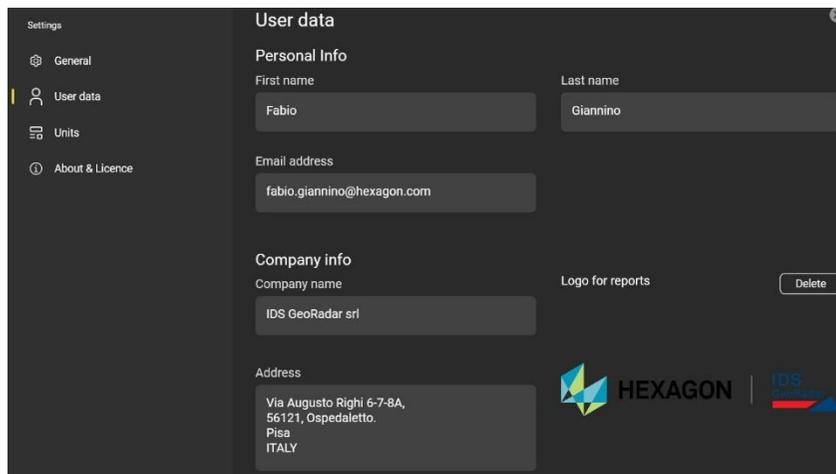

Fig. 17 Users Personal Information
2. **USERS DATA:** Edit Personal and Company information (Fig. 17),